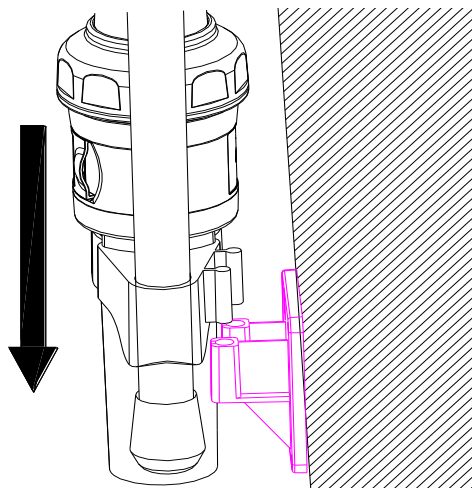

Figure 4.1b Bulkhead bracket install
3. Mount the main unit onto the bracket. (Refer to Figure 4.1b)